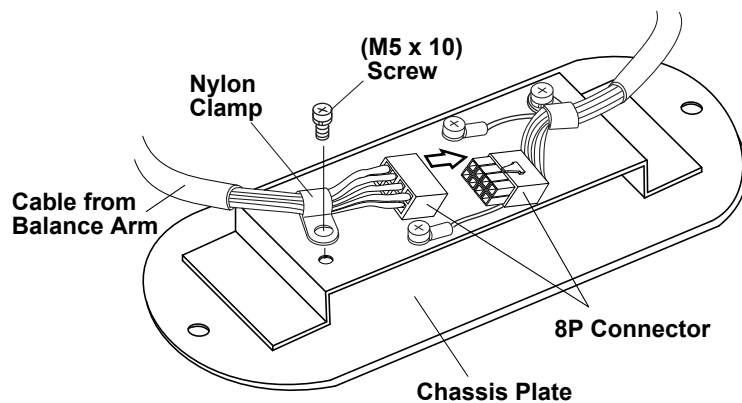

Fig.3-13 Balance Arm Installation
4. Connect 8P connector of the balance arm cable to 8P connector of the horizontal arm cable. Secure the wires from the balance arm to bottom cover with a nylon cable clamp to prevent the damage from twisting. (Fig.3-13)